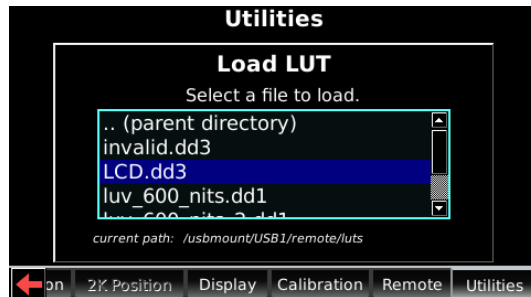

Figure 2-62 Select a File to Load Screen
3. Press **ENTER** to display the files on the USB device, then use the arrow keys to select the desired 3D LUT, as shown in Figure 2-62.